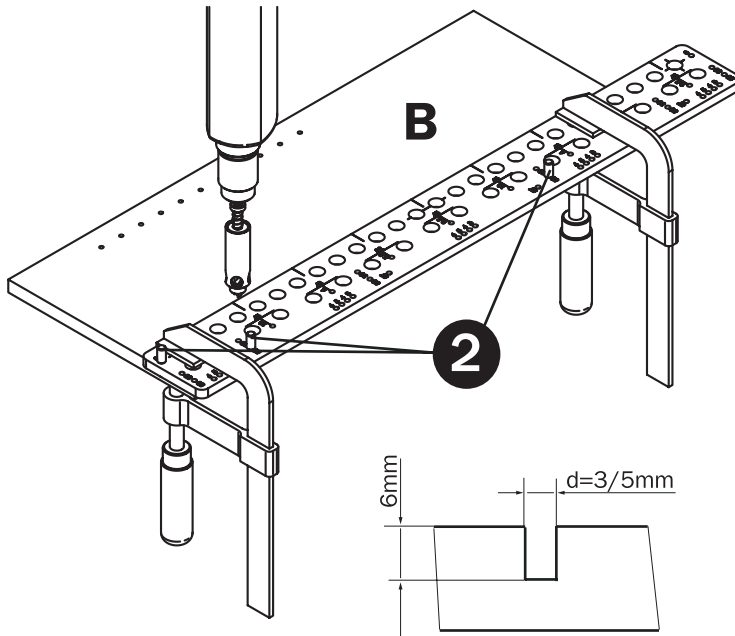

Fig. 11
Insert two pins (pos. 2) in the 30 holes and one in the 0 hole at the template edge. Position the **CMT900** on the work piece so that the two pins in the 30 holes are up against the rear edge of the work piece and the stop in the 0 hole is up against the work piece upper edge (**Fig. 11**).